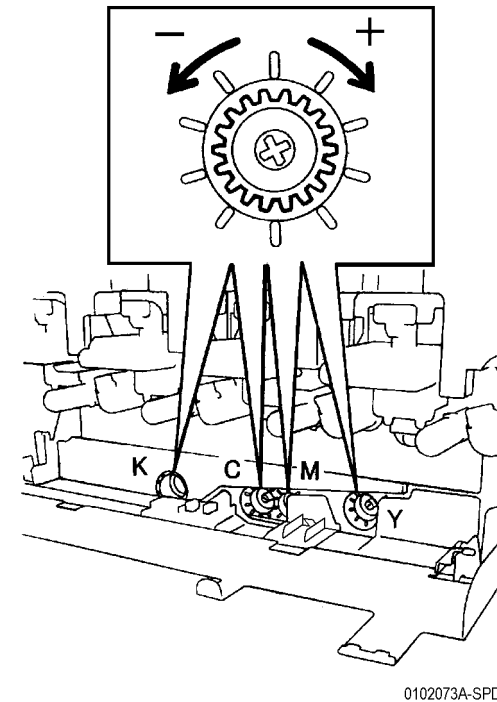

Figure 3 Adjusting Y, M, C, K Screws
1. Adjust Y, M, C, K Screws (Figure 3).
- b. Rotate the appropriate (CYMK) adjustment screw (Figure 3) in +CW or -CCW as indicated in **Dir.** window the number of clicks indicated in **Clicks** window.